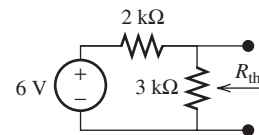

FIGURE P3.52 Circuit for Problem 3.52.
3.52 (B) Find R_{th} in Figure P3.52: